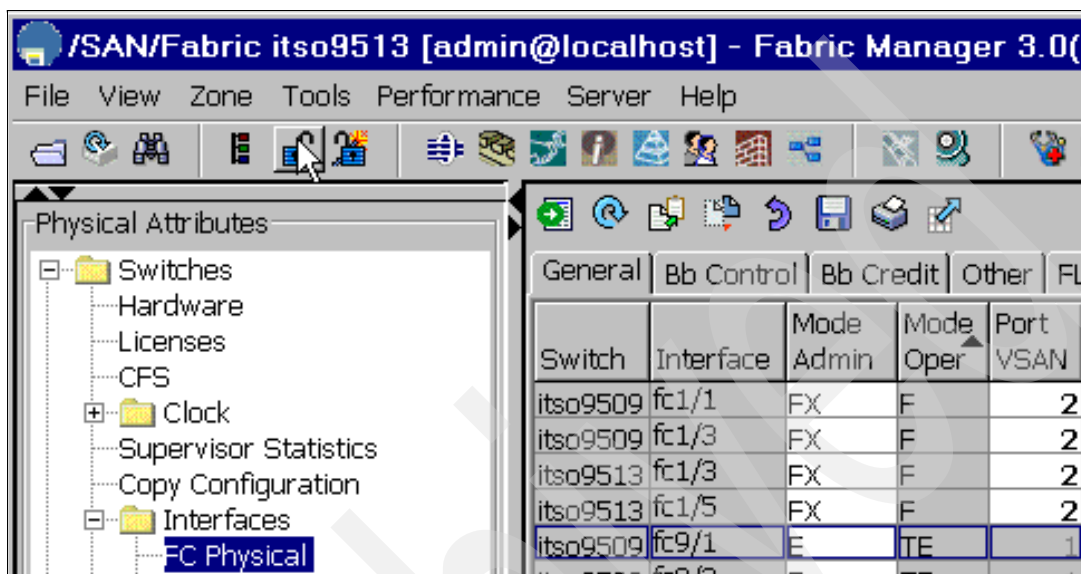
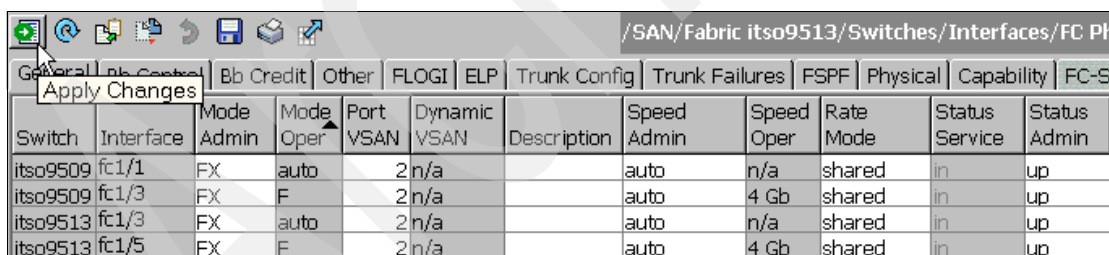

Figure 47 Ports on the 9509 that we want to change
Figure 48 Ports on the 9513 we want to change
- Place the ports you are using into the VSAN you want them in (in our case we change from VSAN 92 to VSAN 2), set them to **Admin Up** status (if not up already) as shown in Figure 47 on page 43 and Figure 48, and apply the changes.
- Click **Apply Changes** (Figure 48).